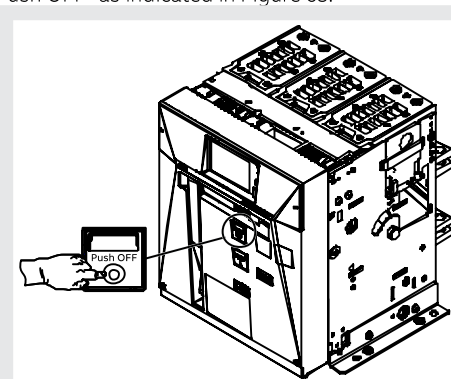

Figure 63
6. Opening - Press the opening pushbutton “O - Push OFF” as indicated in Figure 63.